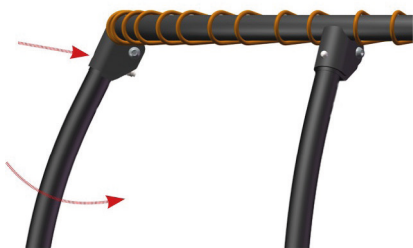

Fig. 17
2. Push the leg in towards the jumping mat and let go of the spring pin (M) as soon as the leg is folded (see fig. 17, fig. 18 and fig. 19).